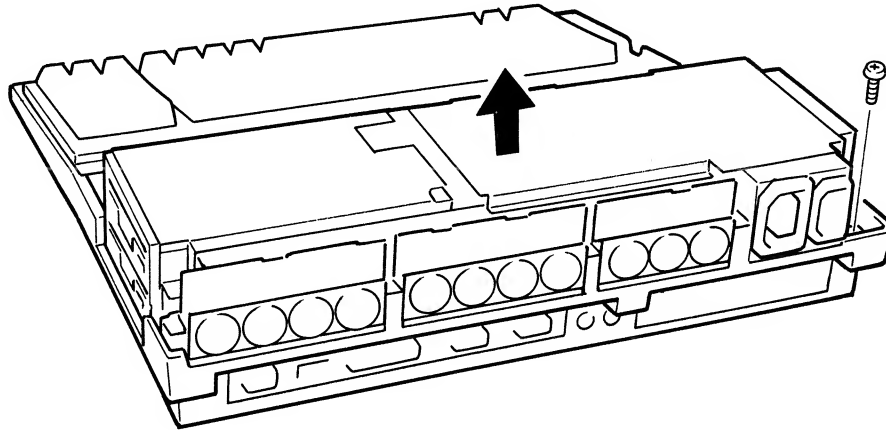

Fig. 3
3. Remove the screw as shown in the Fig. 3 and lift out the power supply/FDD/fan assembly, then disconnect four connectors that are attached to the Main circuit board.